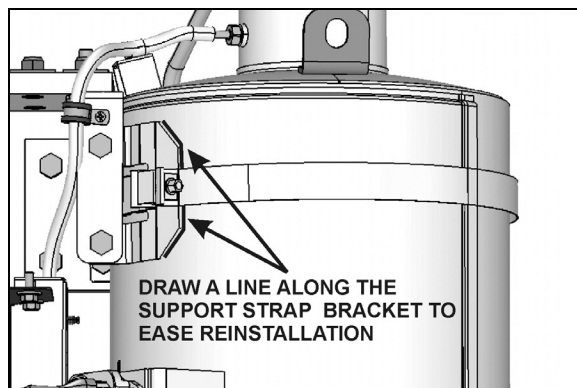

FIGURE 5: MARKING THE SUPPORT STRAP BRACKET
5. To ease proper positioning of the ATD and the diffuser at the time of reinstallation, using a marker, draw a line along the support strap bracket on the ATD. This will be helpful to reposition the ATD exactly as it was before removal (figure 5).